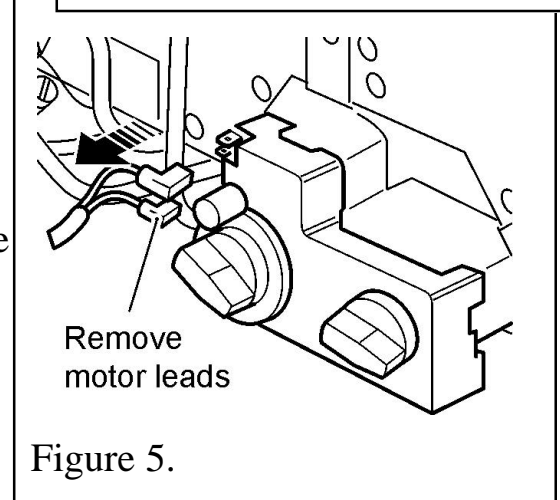

Figure 5.
- Remove the wiring loom connectors from the left hand side of the gas valve (See figure 5).